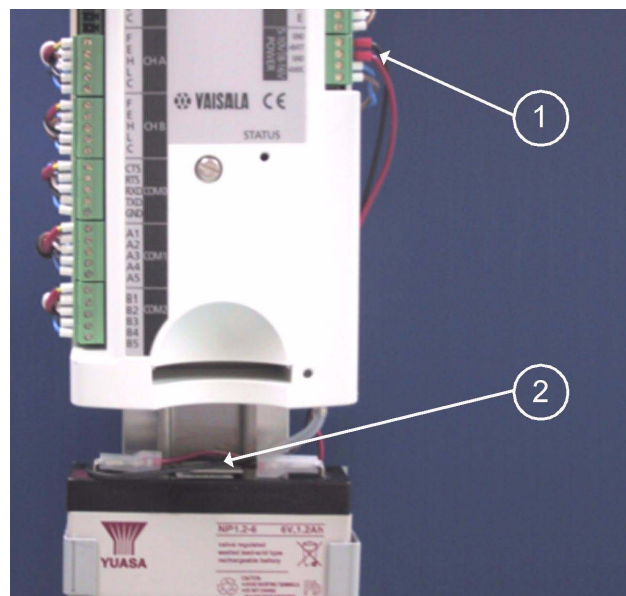

Figure 42 Additional Internal Battery Installed
- a. Bend the metal clip (number 2 in Figure 42 on page 61) at the top to hold the battery in its compartment.
- c. Connect the wires from the battery to the **Power** connector (number 1 in Figure 42 on page 61): the black wire to the **GND** connector and the red wire to the **Batt** connector.